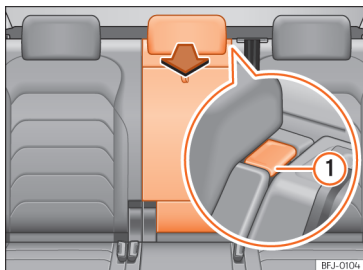

Fig. 130 Backrest of the rear seat: opening the trapdoor for long loads
- Press the unlocking button >>> **Fig. 130** ① and fold the tailboard forward >>> ⚠.